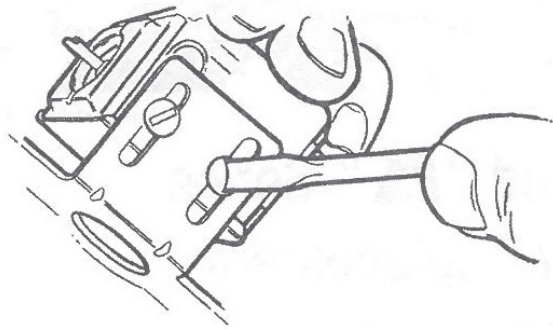

Figure 1
3. Adjust horizontal mounting bracket by moving the bracket forward or backwards until the proper shaft length is attained. Tighten two bracket mounting screws. See Figure 1.*